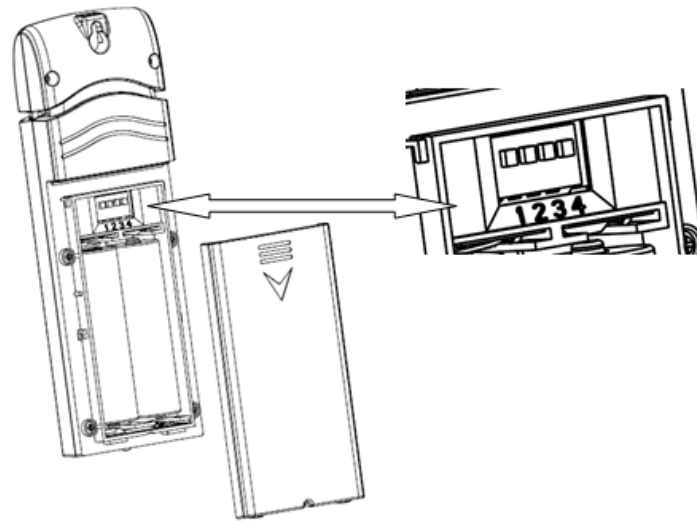

Figure 29
- 1 Remove the battery door on the back of the transmitter(s) by sliding down the battery door, as shown in Figure 29
- 3 **Channel Number:** This item supports up to eight transmitters. To set each channel number (the default is Channel 1), change Dip Switches 1, 2 and 3, as referenced in Figure 29.